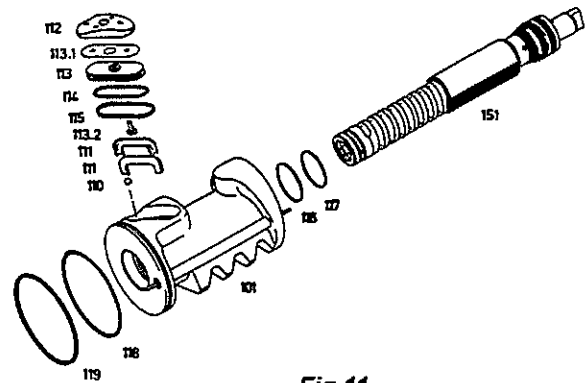

Fig.11
7.2 Remove gasket/plug (112) complete with compensating plate (113.1), gasket (113), sealing elements (114 and 115), pin (113.2) and recirculating half tubes (111) (Fig.11).